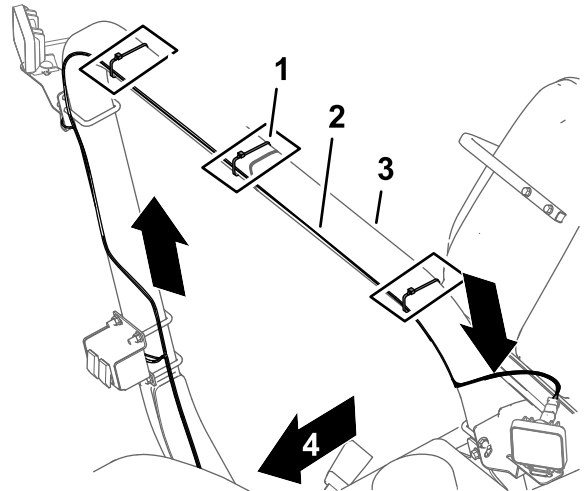
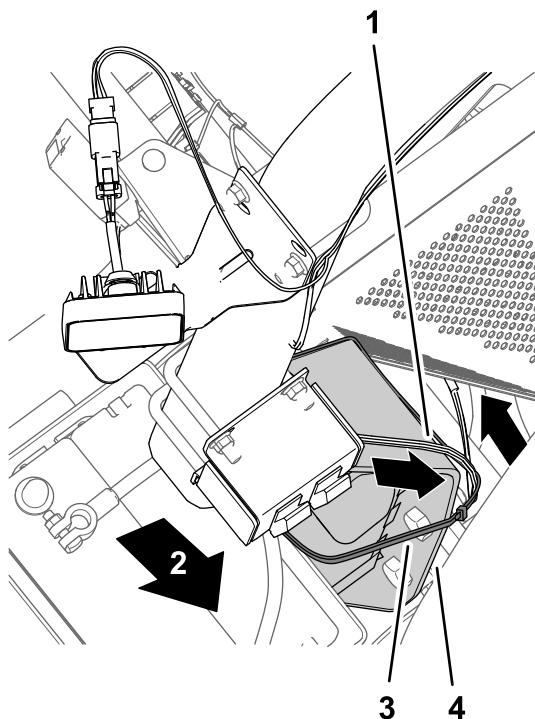
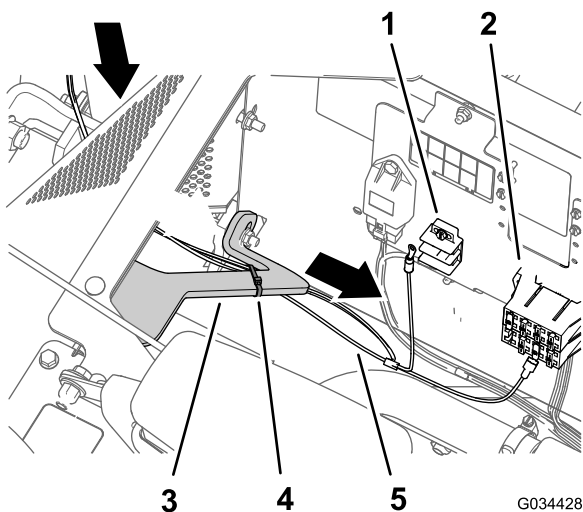

Figure 13
Figure 14
Figure 15
- At the switches, route the branch of the wire harness with the 2-socket connector up and across the back of the horizontal ROPS tube as shown in Figure 13.
- At the light switches, route the branch of the wire harness with the socket terminal and ring terminal down and forward as shown in Figure 14 and Figure 15.
Note: Route the wire harness for the rear work light kit along the wire harness of the machine (Figure 15).
3. Secure the wire harness to the ROPS tube and support for the seat base with cable ties as shown in Figure 13, Figure 14, and Figure 15.
Note: Bundle the excess harness at the support for the seat base and secure the harness bundle with a cable tie as shown in Figure 15.